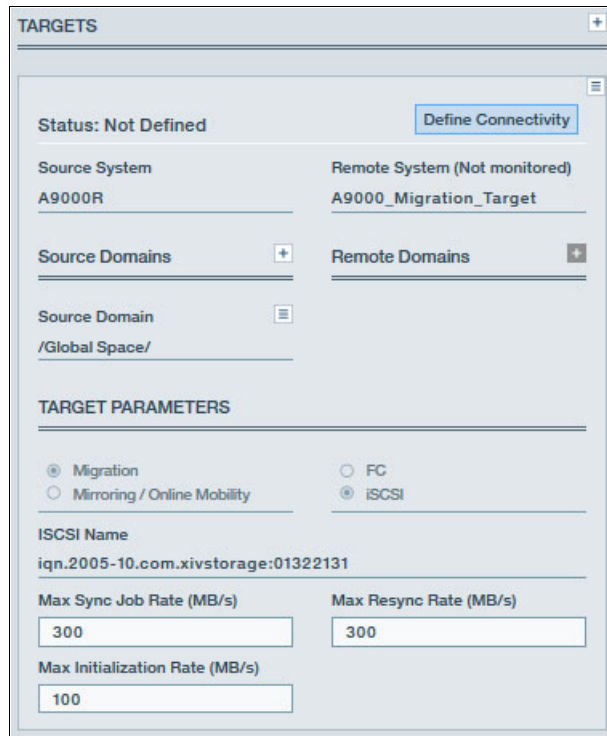

Figure 4-5 Defining target ports in IBM FlashSystem A9000R
3. Enter the following information and select the following options, as shown in Figure 4-5:
4. After the target is defined, the target appears in the System Connectivity display as shown in Figure 4-5.